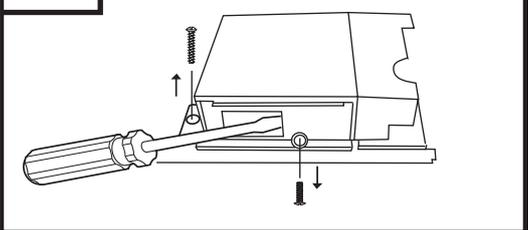

Fig. 60
- Slide power board slightly out to make room to accept terminal block on the power board pin connections as shown in Fig. 60*.